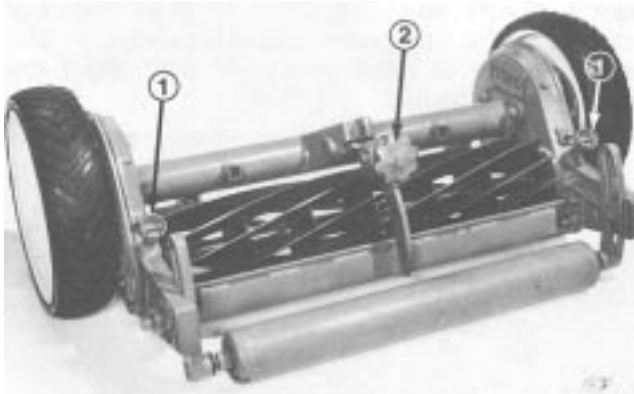

Figure 7
2. Disengage reel throwout knobs (Fig. 7). Carefully spin reel backward to insure free movement.
3. While spinning reel backward, rotate bedknife adjusting knob counterclockwise (Fig. 7) until bedknife does not touch reel blades.
4. While spinning reel backward, rotate adjusting knob clockwise (Fig. 7), one click at a time, until light contact of bedknife and reel is noticed or a whispering cutting sound is heard.
6. At the beginning of the cutting day, when reels are cold, engage the reel throwout knobs (Fig. 7). Operate mowers for 15 to 20 minutes so the bedknife and reel reach normal operating temperature; then stop operation. Next, disengage reel throwout knobs and spin reel backward. A whispering sound, not clicking, should be emitted, and this assures correct adjustment. If a whispering sound is not heard, bedknife and reel must be readjusted; refer to steps 3–5. By contrast, when reels are warm from being used, use only steps 1–5 to maintain light contact between bedknife and reel.